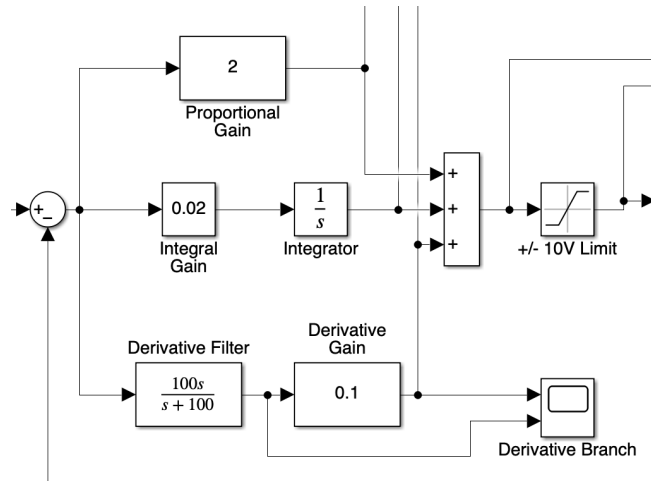

Figure 7: Scope named 'Derivative Branch' in Simulink model.
10. We have the **Derivative Branch** scope, as shown in the Figure 7.